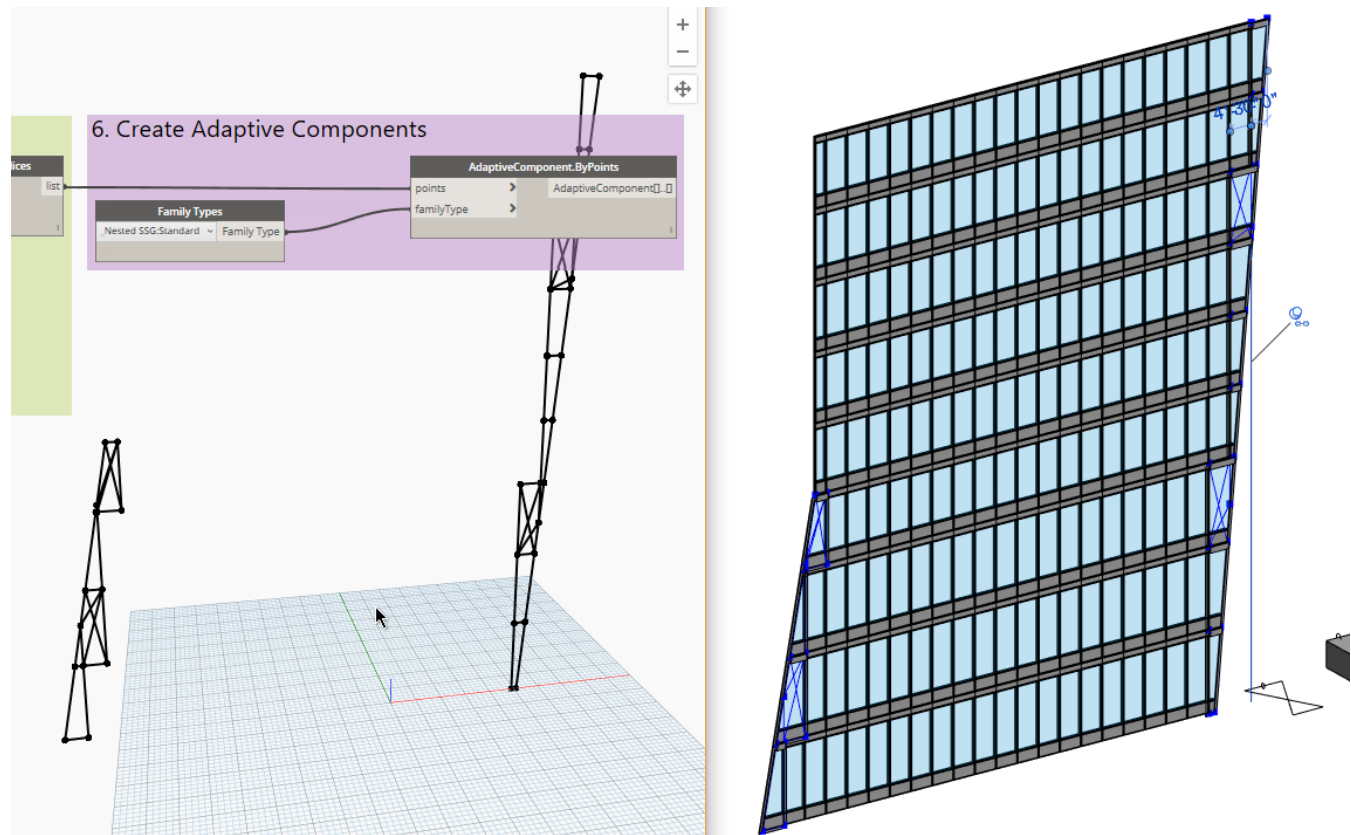

FIGURE 108
60. Turn on Use Levels for the **element** input as well. Change it to: **@L1** and then run the graph again (see Figure 108).
69. Run the graph (see Figure 108).